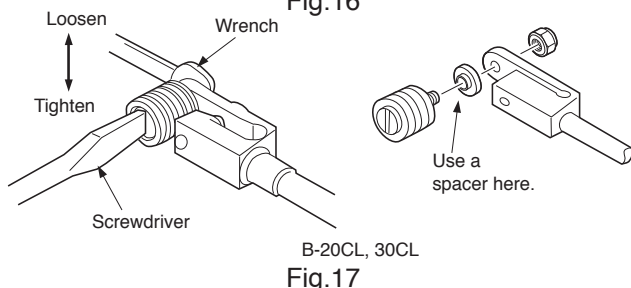

Fig.17
### (2) B-20CL, B-30CL (Fig.17)